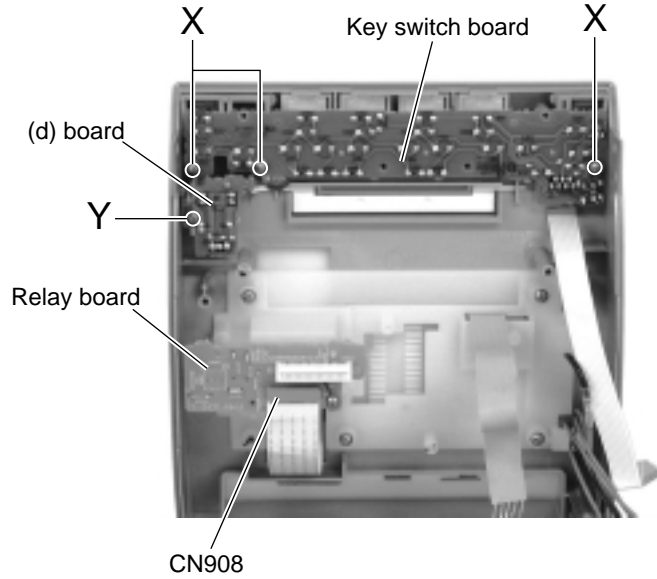

Fig.32
■ **Removing the key switch board / (d) board (See Fig.32 and 33)**
## ■ Removing the LCD board / sub board (See Fig.32 and 34 to 37)